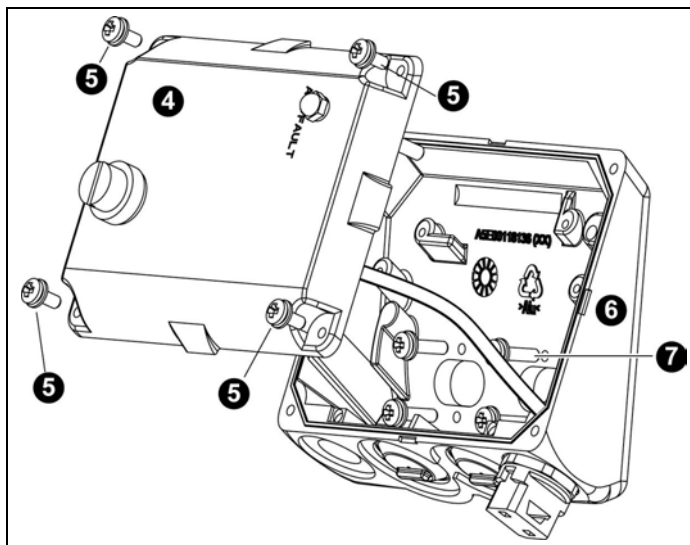
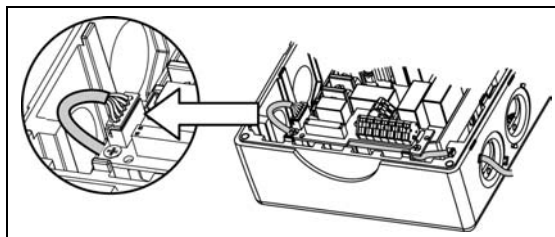

Figure 2-5 AS-i Module Layout
Figure 2-7 Fitting the Communications Cable
1. Unscrew the four M4x10 cover retaining screws 5 (see Figure 2-5).
6. Fasten the Options module base to the fixing plates using the M4x20 retaining screws 7 (see Figure 2-5 above).
8. Feed the supplied comms link cable between the AS-i Module (see Figure 2-5 page 13) and the corresponding comms socket on the replacement inverter I/O board, supplied with the module (see Figure 2-7).